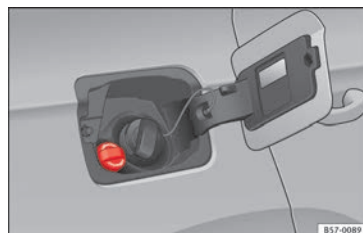

Fig. 238 AdBlue tank cap. **»»**
- Open the tank cover »» Fig. 238.
- Turn the SCR tank cap anti-clockwise »» Fig. 238.